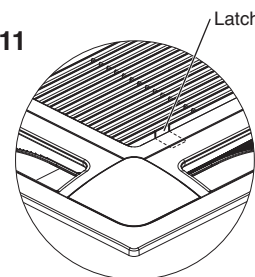

Fig. 6-13
- (1) Remove the air-intake grille and air filter from the ceiling panel.
- a) Press on and slide the two latches of the air-intake grille with your thumb in the direction shown by the arrow ① to open the grille. (Figs. 6-13 and 6-14)